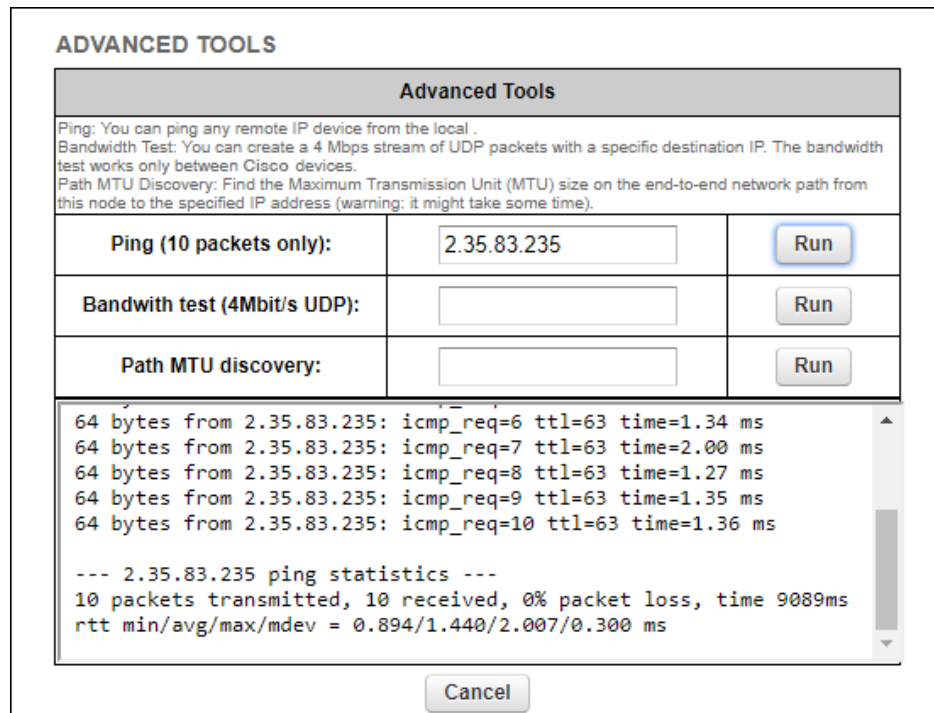

Figure 31. Advanced Tools window (Ping test tool)
2. Enter the IP address of the other unit in the **Ping (10 packets only)** field (Figure 31 \(page 90\)).